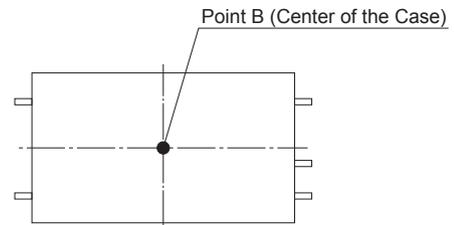

Fig.7.2 Temperature Measuring Point in the case of Forced Air Cooling (Upper Surface of the Case)
② SUC1R5
■In the case of forced air cooling (1m/s), please have sufficient ventilation to keep the temperature of point B in Fig.7.2 at 95°C or below.